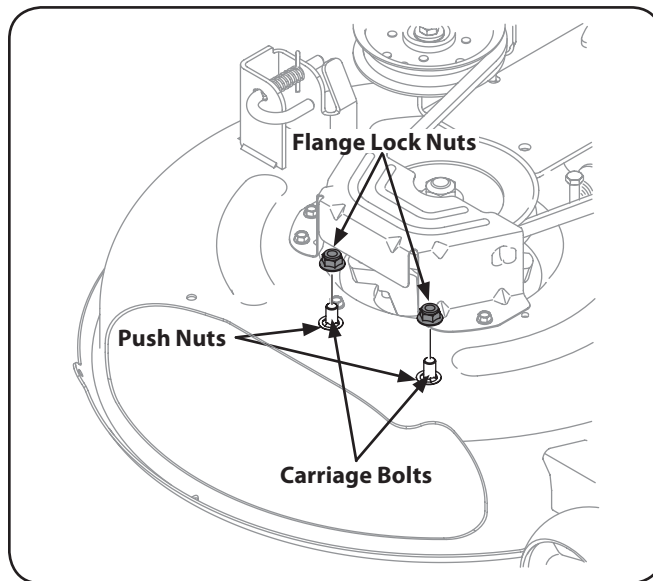

Figure 3-8
2. Remove the flange lock nuts from the deck. Do not remove the push nuts or carriage bolts, leaving them in place will aid in installing the chute. See Fig. 3-8.